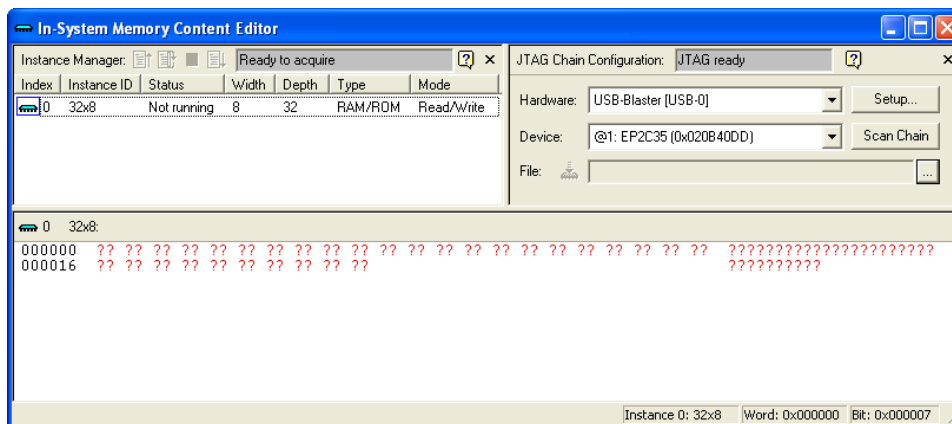
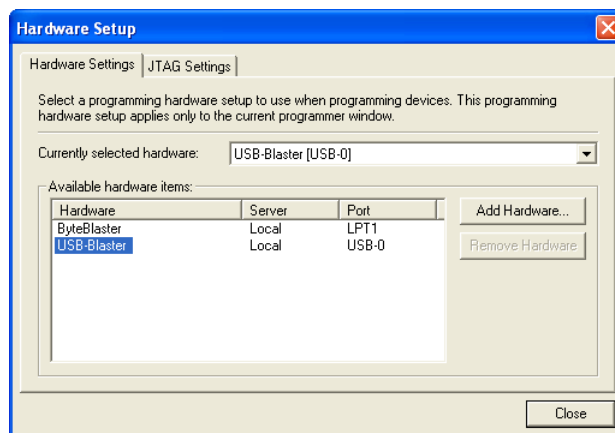

Figure 8. The In-System Memory Content Editor window.
Figure 9. The Hardware Setup window.
5. Select Tools > In-System Memory Content Editor, which opens the window in Figure 8. To specify the connection to your DE2 board click on the **Setup** button on the right side of the screen. In the window in Figure 9 select the USB-Blaster hardware, and then close the Hardware Setup dialog.